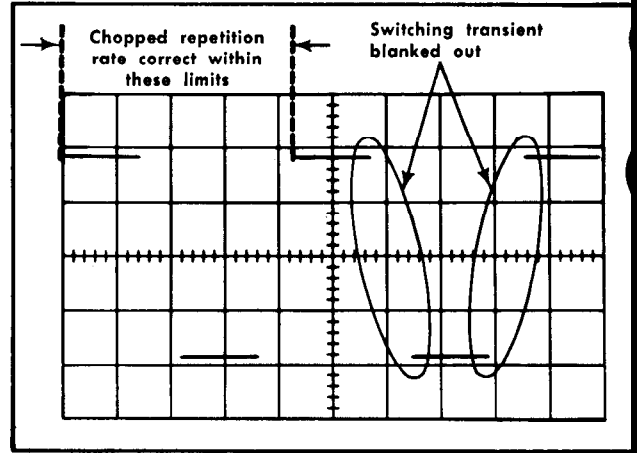

Fig. 6-54 . Typical CRT display when checking chopped repetition rate and blanking.
d. CHECK-Each cycle for duration of 3.4 to 5 divisions (500 kilohertz,  $\pm 20\%$ ; see Fig. 6-54).
e. CHECK-CRT display for complete blanking of switching transients between chopped segments (see Fig. 6-54).